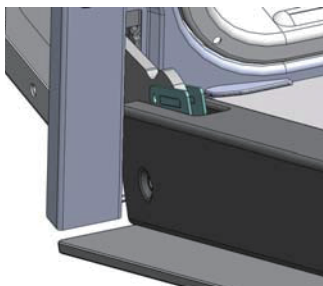

Fig. 3
- Hold the door in position as shown (Fig. 3);